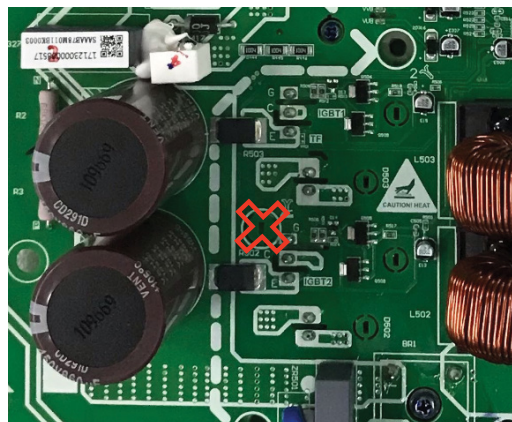

Figure 3
6. Insert a 1/8" flathead screwdriver in the vertical slot at the location marked with "X" in Figure 3. Twist the screwdriver to remove the circle piece from the board.
- There are 3 different types of screws; they should not be mixed. Different screw types are installed in different locations. Refer to color coding in Figure 3 and Table 2 for appropriate screw type and location.